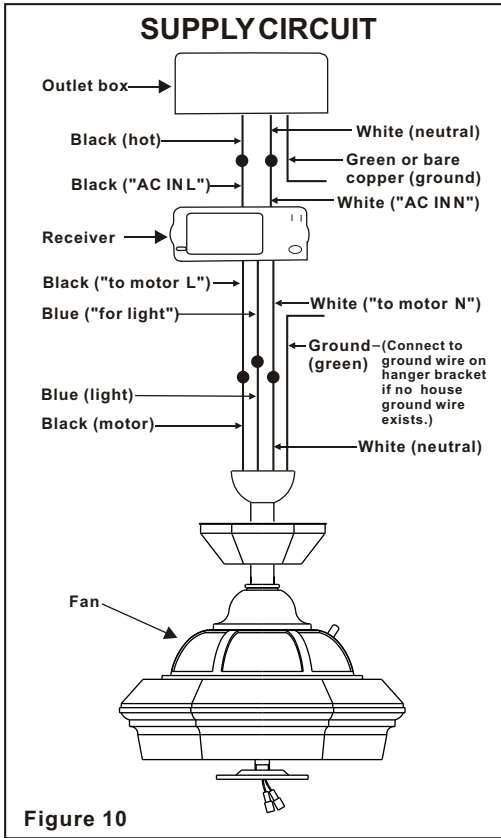

Figure 10
**Step 2.** (Fig. 10) Motor to Receiver Electrical Connections: Connect the black wire from the fan to black wire marked "TO MOTOR L". Connect the white wire from the fan to the white wire marked "TO MOTOR N" from the receiver. Connect the blue wire from the fan to the blue wire marked "For Light" from the receiver. Secure the wire connections with the plastic wire nuts provided.
**Step 3.** (Fig. 10) Receiver to House Supply Wires Electrical Connections: Connect the black (hot) wire from the ceiling to the black wire marked "AC in L" from the receiver. Connect the white (neutral) wire from the ceiling to the white wire marked "AC in N" from the receiver. Secure the wire connections with the plastic wire nuts provided.
**Step 4.** (Fig. 10) If your outlet box has a ground wire (green or bare copper) connect it to the fan ground wires; otherwise connect the hanging bracket ground wire to the mounting bracket. Secure the wire connection with a plastic nut provided. After connecting the wires spread them apart so that the green and white wires are on one side of the outlet box and black and blue wires are on the other side. Carefully tuck the wire connections up into the outlet box.